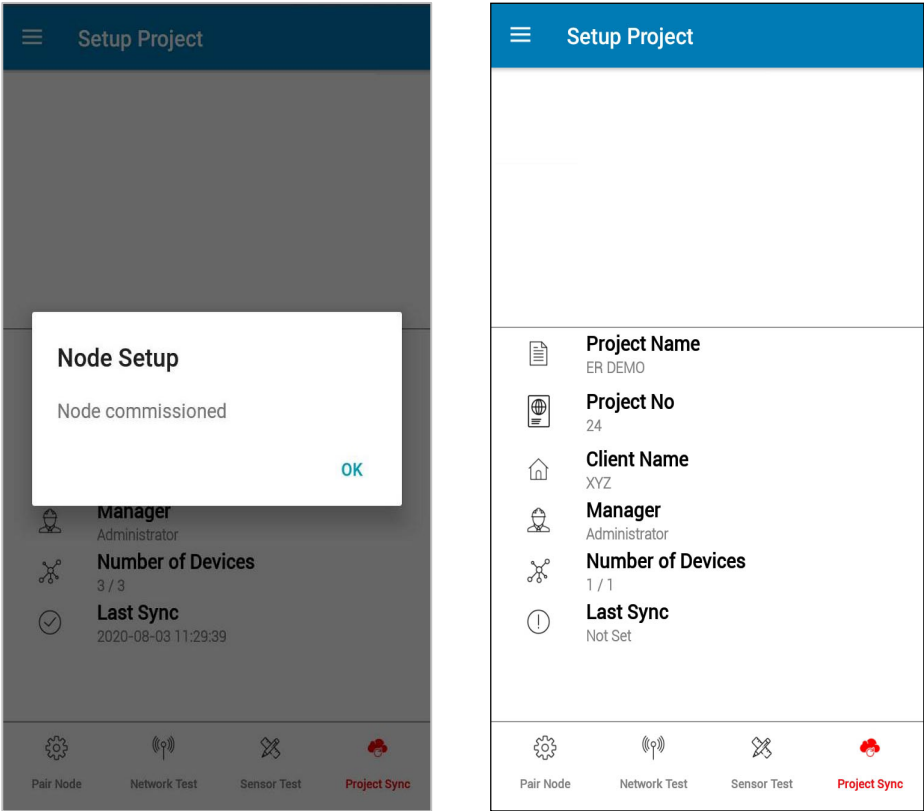

Figure 5-14
5. The app will prompt, “Node commissioned” as shown in left side screenshot in the figure 5-14. Click OK.
6. Press the 'Project Sync' button at lower right of screen (shown in the right side in figure 5-14) to send all the configuration information back to the gateway.